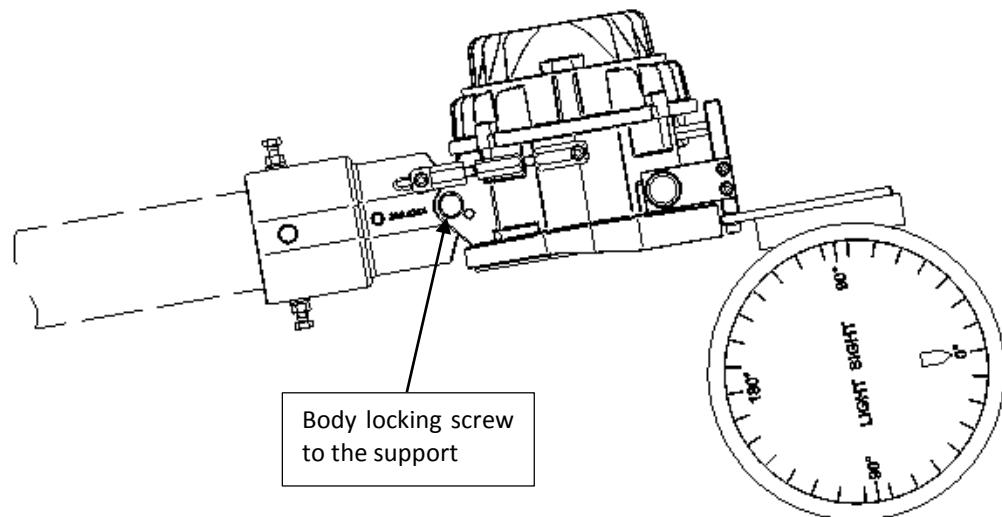

Figure 4: light sight position for vertical aiming
1. For the vertical aiming attach the light sight as per figure 4.
2. Be sure that both the screws with washer, which locks the body to the special support and act as fulcrum, are loosen (fig. 4).
7. Finally tighten the 2 screws which lock the fixture body to the special support (fig. 4).